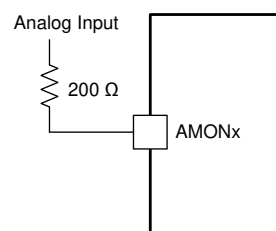

Figure 40. Example of Analog Inputs
- TI recommends to maintain at least 200- Ω resistance between a low-impedance analog input and a AMON pin. For example, when monitoring a rail voltage without resistor divider, it is recommended to place a 200- Ω resistor at the AMON pin, as shown in Figure 40.